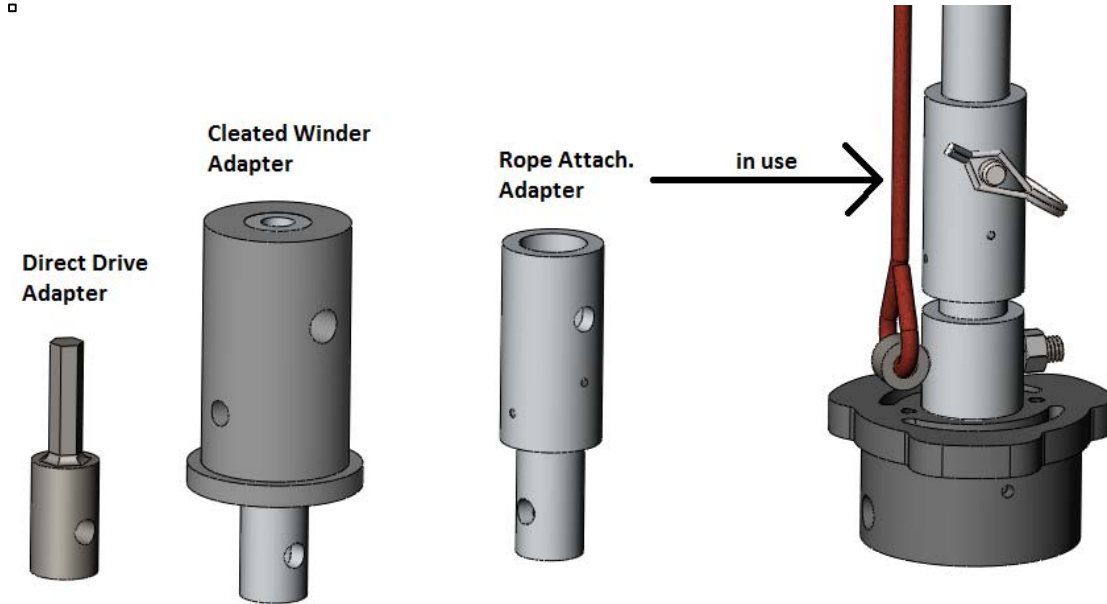

Figure 12: IDDO to SW Adapters
- 13.1** Refer to 8507-0010, Sidewinder Operator's Guide for a full description of the use of the Sidewinder accessory. This guide is only intended to explain the adapters specific to the IDDO Hand Auger system (Figure 12).